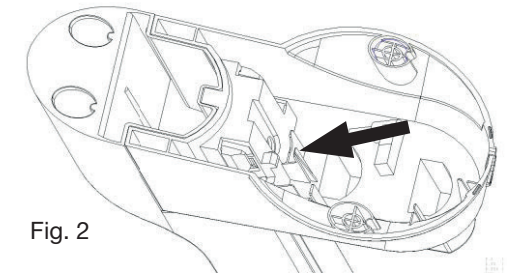

Fig. 2
2. Insert the end of the mains charger power cord into the space indicated by an arrow in **Figure 2**.